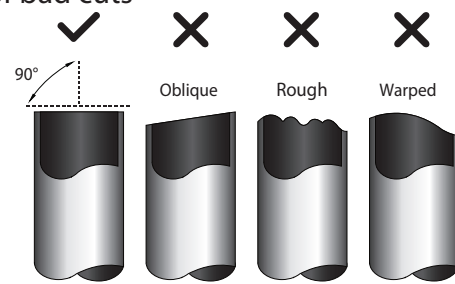

Fig. 6.4
1. Make sure that the pipe is cut at a perfect 90° angle. Refer to Fig. 6.4 for examples of bad cuts